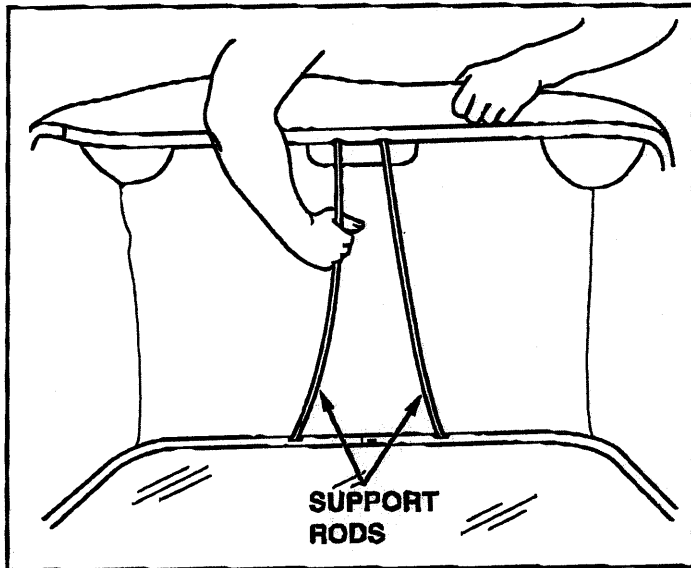

FIGURE 3
5. Assemble the two hopper support rods as shown in figure 3. Place one end of a rod into the hole in an upper hopper tube and bend the rod just enough to fit the bottom end of the rod into the hole in a bottom hopper tube.